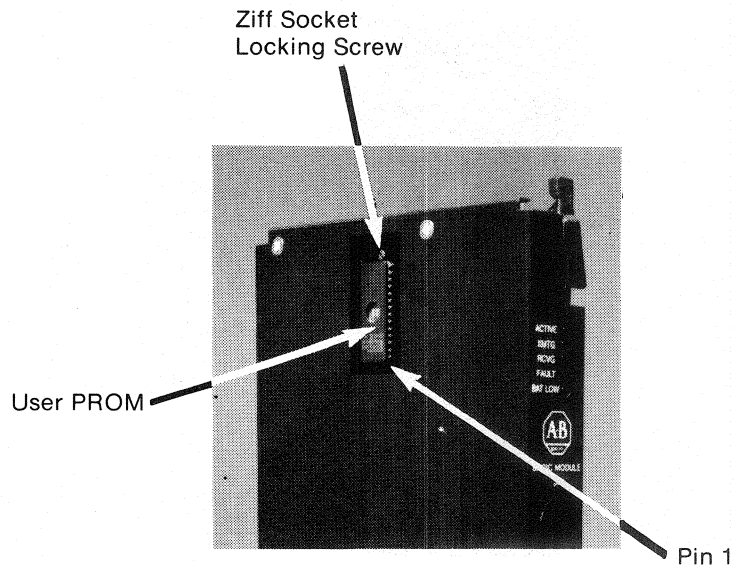

Figure 3-10
1)turn the small screw (in the socket just above the chip,(figure 3.10) 1/4 turn counterclockwise